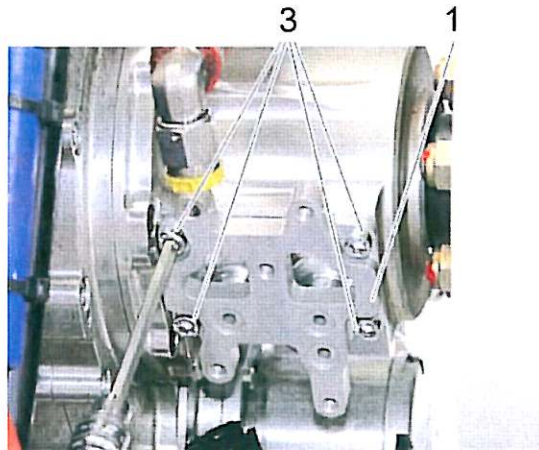

Figure 11
3. Apply Loctite 243 to the four screws (item 3).
4. By using the four screws (item 3), attach the adapter plate (item 1) to the gearbox. The side that was fitted with the O-rings must face the gearbox. See Figure 11.